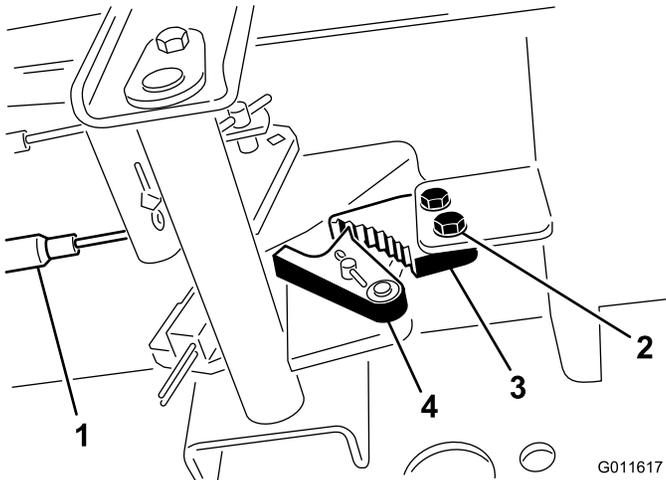

Figure 36
1. Loosen the 2 screws securing the parking-brake pawl to the frame (Figure 36).
2. Press the parking brake pedal forward until the brake detent completely engages on the brake pawl (Figure 36).